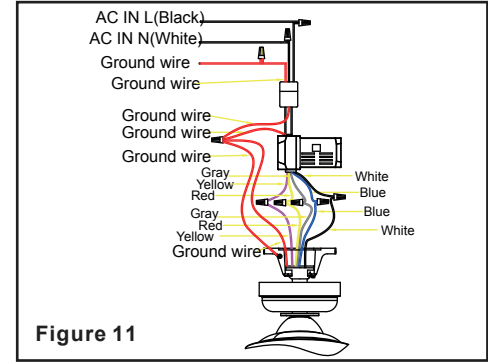

Figure 11
Connect green wires from EMI Filter and related parts according to the wiring diagram as shown in Figure 11, make sure EMI Filter is properly seated in outlet box.
2. (Figure 11) Motor to receiver electrical connections: Connect the grey wire from the fan to grey wire from the receiver. Connect the red wire from the fan to the red wire from the receiver. Connect the yellow wire from the fan to the yellow wire from the receiver. Connect the blue wire from the fan to the blue wire from the receiver. Connect the white wire from the fan to the white wire from the receiver. Secure the wire connections with the plastic wire connecting nuts provided.
3. (Figure 11) Receiver to house supply wires electrical connections: Connect the black (hot) wire from the ceiling to the black wire marked "AC in L" from the receiver. Connect the white (neutral) wire from the ceiling to the white wire marked "AC in N" from the receiver. Secure the wire connections with the plastic wire connecting nuts provided.
4. (Figure 11) If your outlet box has a ground wire (green or bare copper) connect it to the fan ground wires; otherwise connect the hanging bracket ground wire to the mounting bracket. Secure the wire connection with a plastic nut provided. After connecting the wires spread them apart so that the green and white wires are on one side of the outlet box and black and blue wires are on the other side. Carefully tuck the wire connections up into the outlet box.